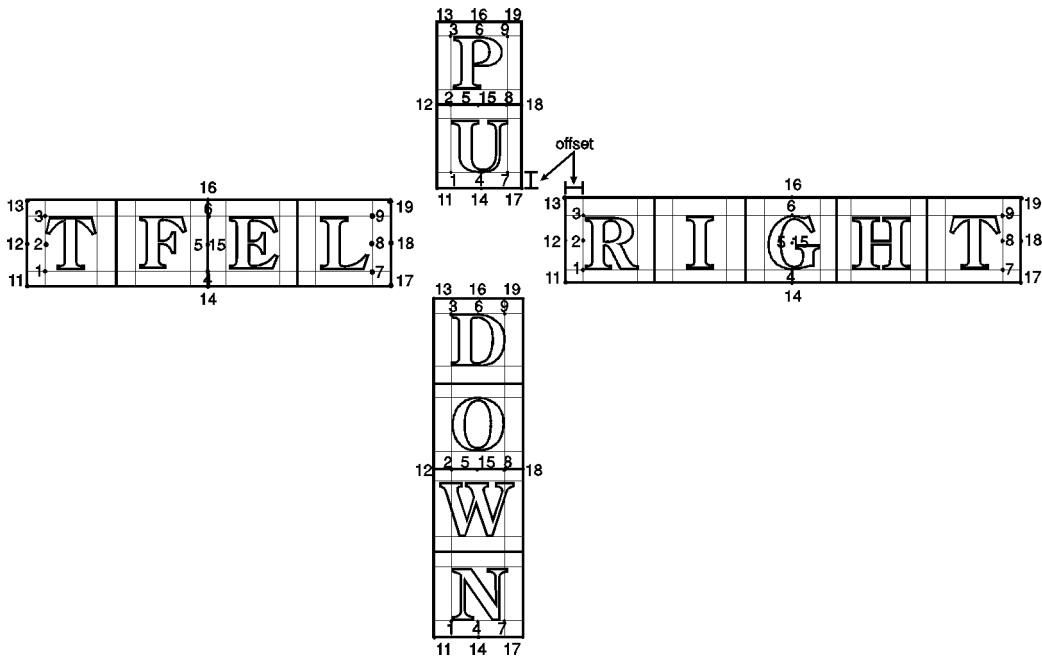

Figure 23-24. Label Origin Positioning
- Label origins do not change text path. To change the text path, use the Define Variable Text Path (DV) command.
- Label position 21 is not shown in Figure 23-24 because the exact location is dependent on the PCL position.